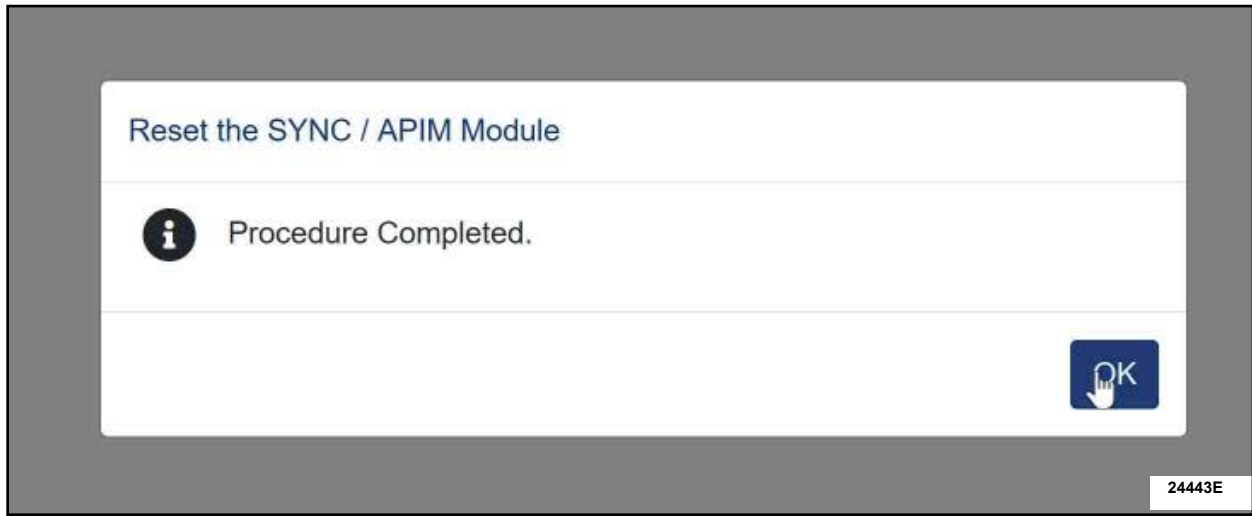

FIGURE 3
11. FDRS will confirm that the procedure is complete. Click **OK**. See Figure 3.